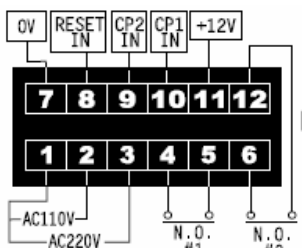

Fig.4
4. U/D B, individual input. CP1=+, CP2=-...**Fig.4**